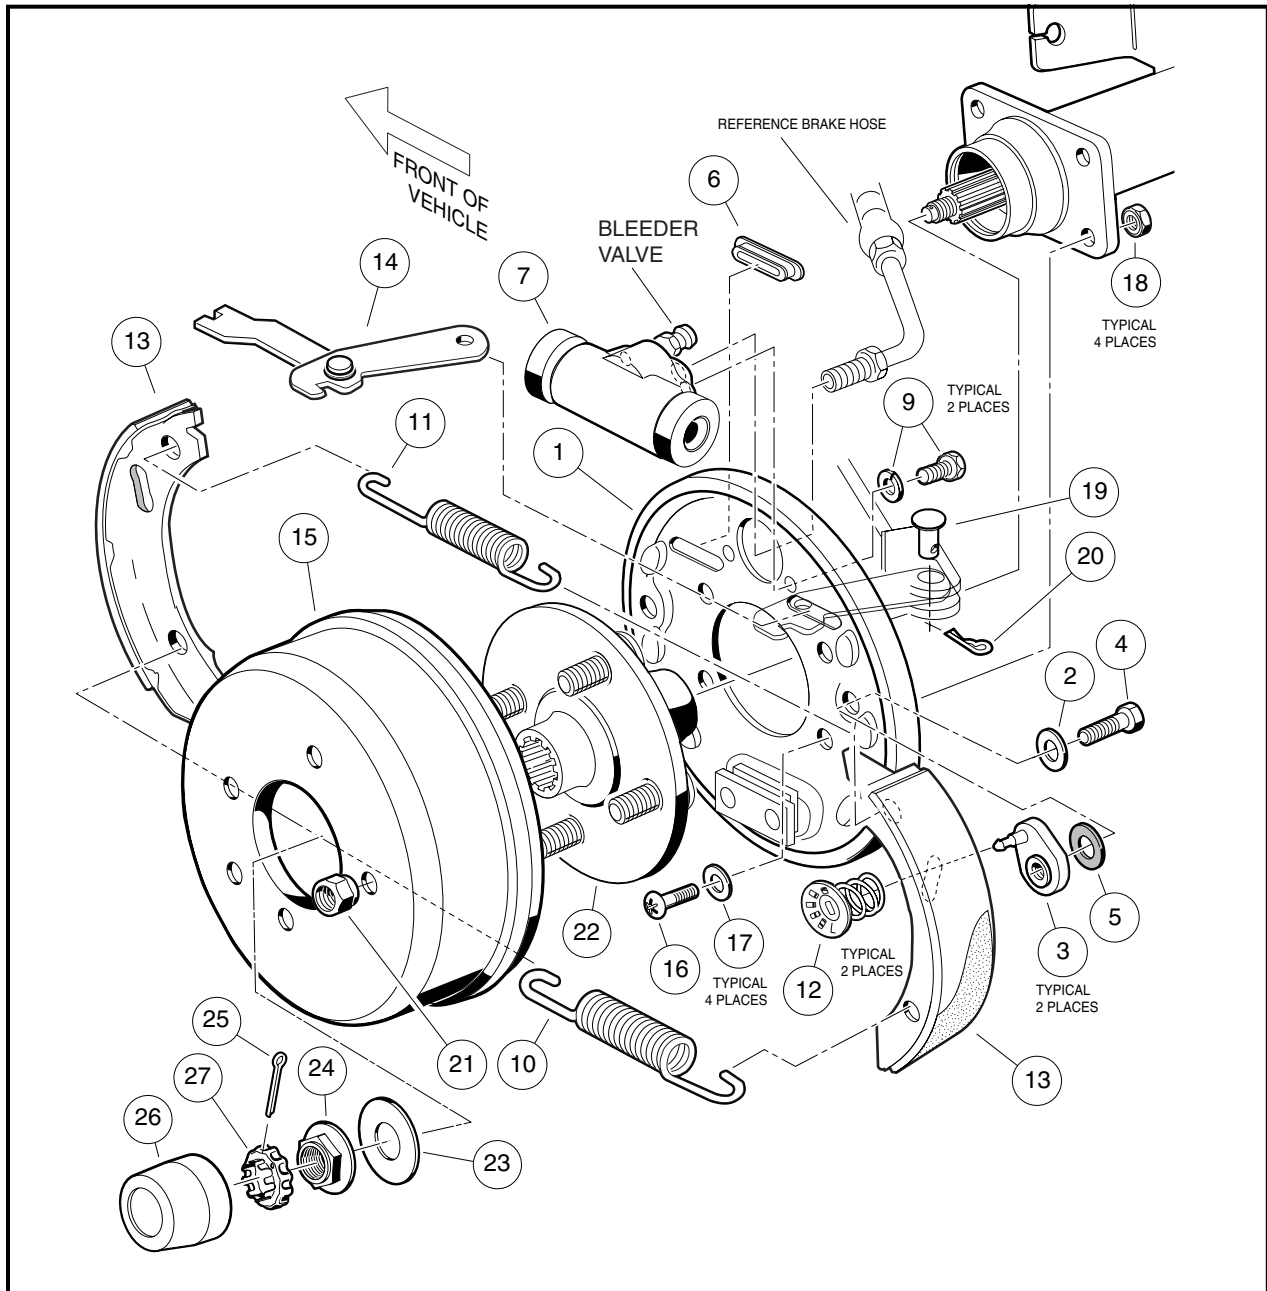

Figure 6-19 Rear Hydraulic Brake Cluster Assembly
1. Place the brake drum (15) onto the wheel bolt flange and brake cluster (**Figure 6-19, Page 6-21**). See following **NOTE**.
- Do not apply more than 65 in-lb (7.3 N·m) of torque to any of the adjuster bolts. Overtightening the adjuster bolts could result in damage to the brake cluster components or the separation of the bolt (4) from the adjuster (3) (**Figure 6-1, Page 6-2** or **Figure 6-19, Page 6-21**).
5. Install the wheel and finger-tighten the lug nuts (21) (**Figure 6-19, Page 6-21**).
8. Use a Torx #T-40 driver and remove the four Torx-head bolts (16), washers (17), and lock nuts (18) that secure the brake cluster back plate to the axle tube flange (**Figure 6-19, Page 6-21**).
1. Install the back plate to the axle tube flange with new four Torx-head bolts (16), washers (17) and lock nuts (18). Tighten all four bolts to 76 in-lb (8.6 N·m) (**Figure 6-19, Page 6-21**). See following **CAUTION**.
5. Remove two bolts (9) and lock washers that secure the wheel cylinder to the mounting plate (1), and remove the wheel cylinder (7) (**Figure 6-19, Page 6-21**).
4. Grip adjuster arm (3) with a pair of locking pliers and use a Torx #T-27 driver, or 7/16-inch socket to remove the bolt (4), flat washer (2) and Bellville washer (5) from the brake cluster back plate (1) (**Figure 6-19, Page 6-21**). Remove remaining adjuster assembly and discard all adjuster components (3, 4, 2, and 5) for both assemblies.
1. Install bolt (4) and flat washer (2) to the back plate (1) (**Figure 6-19, Page 6-21**).
2. Apply a light coat of grease to the Bellville washer (5) and install the washer onto the bolt (4) and against the inside surface of the back plate (1).
3. Carefully apply Loctite 222 to the threaded portion of bolt (4) and attach the adjuster arm (3). Position adjuster so that the brake mounting post is to the top of the back plate.
4. Grip adjuster arm (3) with a pair of locking pliers and tighten the bolt (4) to 115 in-lb (13 N·m).